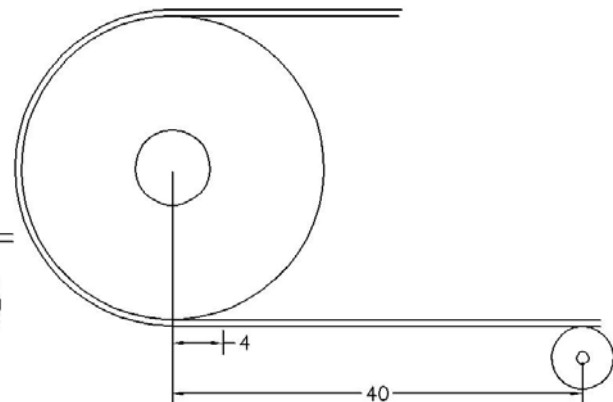

Fig 2
Vertical - The recommended blade position is 4" minimum from the vertical centerline of the head drum. (Figure 2)
- 2) For Installations where there is no snub drum, the first return roller should be installed approximately 40" from the center of the head drum (Figure 2). This will ensure that the belt is sufficiently supported. It is critical that the belt must be flat in this area. If needed install a hold down roller (not included).